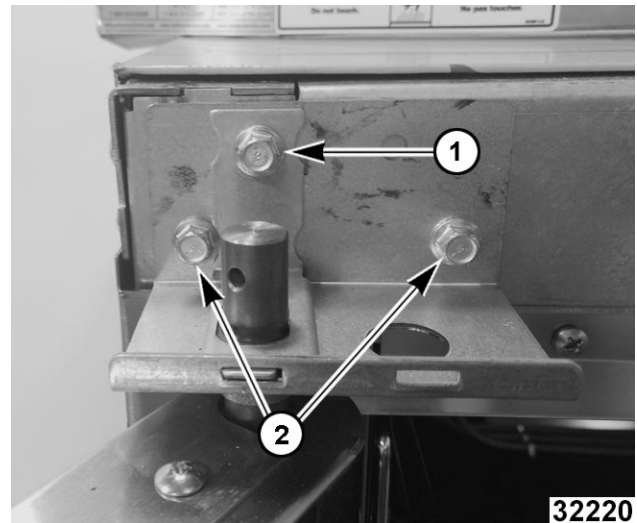

Fig. 54
6. While supporting door, remove hex head bolts holding upper bearing retainer (1, Fig. 54) and upper shaft bracket (2, Fig. 54).